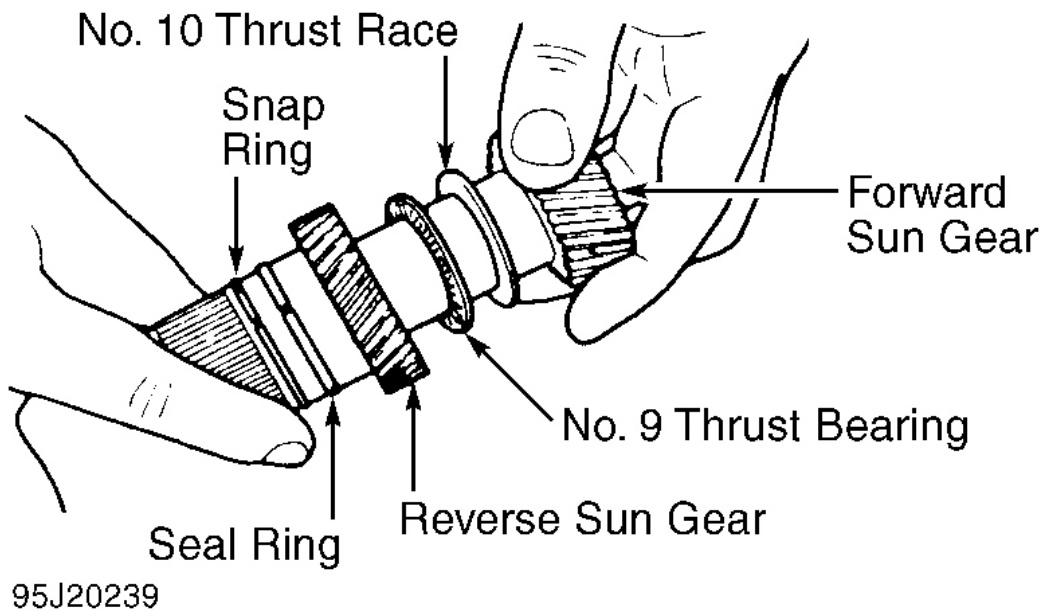

Fig. 41: Assembling Sun Gear Assembly
30. Install thrust bearing No. 9 and thrust race No. 10 on forward sun gear. See **Fig. 41** . Assemble reverse sun gear and forward sun gear.